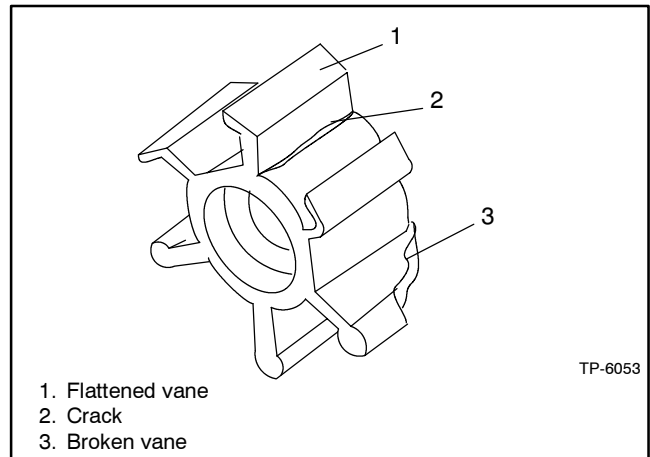

Figure 3-3 Worn Impeller
4. Inspect the impeller for damaged, cracked, broken, missing or flattened vanes. The impeller vanes should be straight and flexible. See Figure 3-3. Replace the impeller if it is damaged.